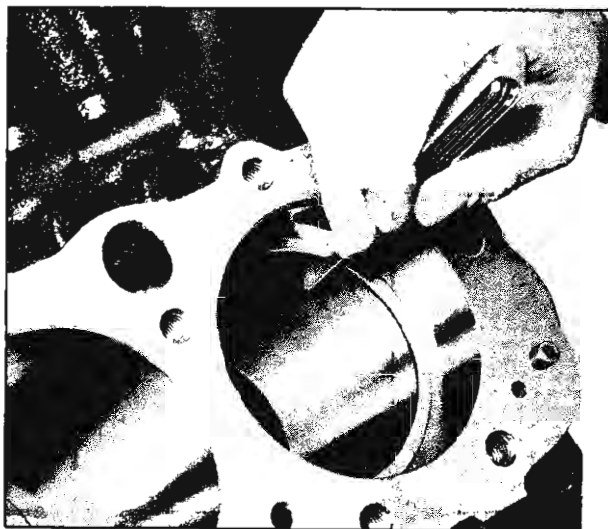

Fig. 93—Checking Ring Gap
3. Check the space or gap between the ends of the ring with a feeler gauge (fig. 93).